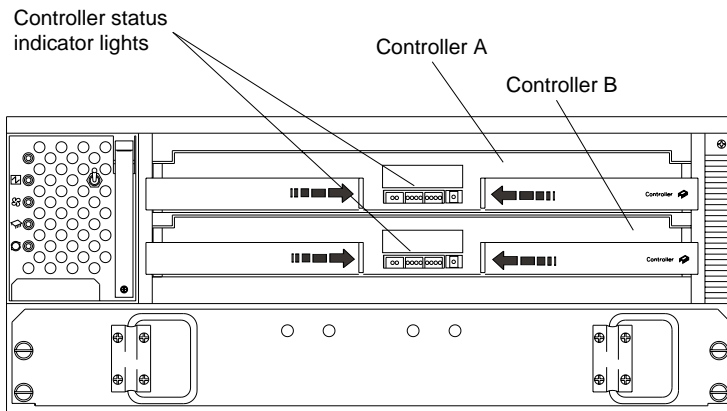
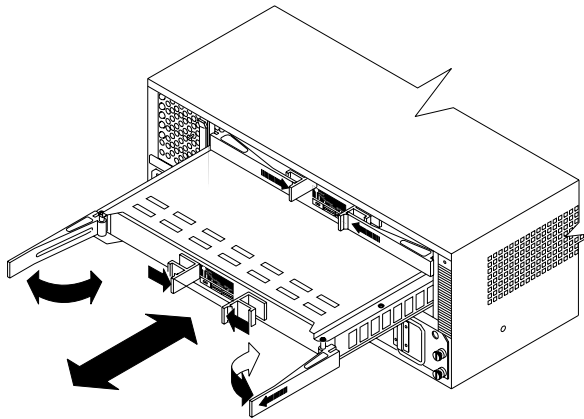

Figure 32. Controller status indicator lights
Figure 33. Removing and replacing a failed controller CRU
Each controller comes in a removable, portable unit, called a controller CRU, as shown in Figure 33 on page 35. Each controller CRU slides into one of two controller slots on the front of the FAStT700 Storage Server and attaches to hosts through Fibre Channel connections. Two handles lock the controller in place. Each controller slot has a controller slot designation that identifies the physical location of the controller in the chassis: controller slot A (top) or controller slot B (bottom). Each controller CRU has ten indicator lights: one power, one fault, and eight status indicator lights, as shown in Figure 32 on page 34.
2. Using Figure 33 on page 35 as a guide, remove the controller that has failed.
4. Using Figure 33 as a guide, install the new controller as follows: